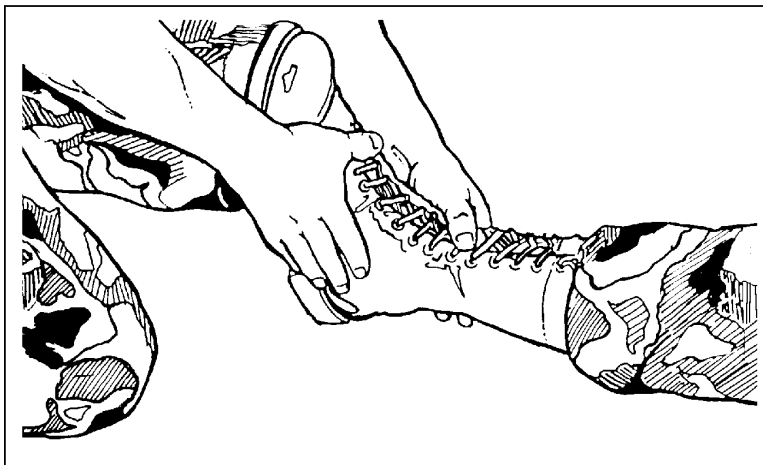

Figure 3-25
2. Direct the assistant to manually stabilize the injured leg. (See Figure 3-25.)